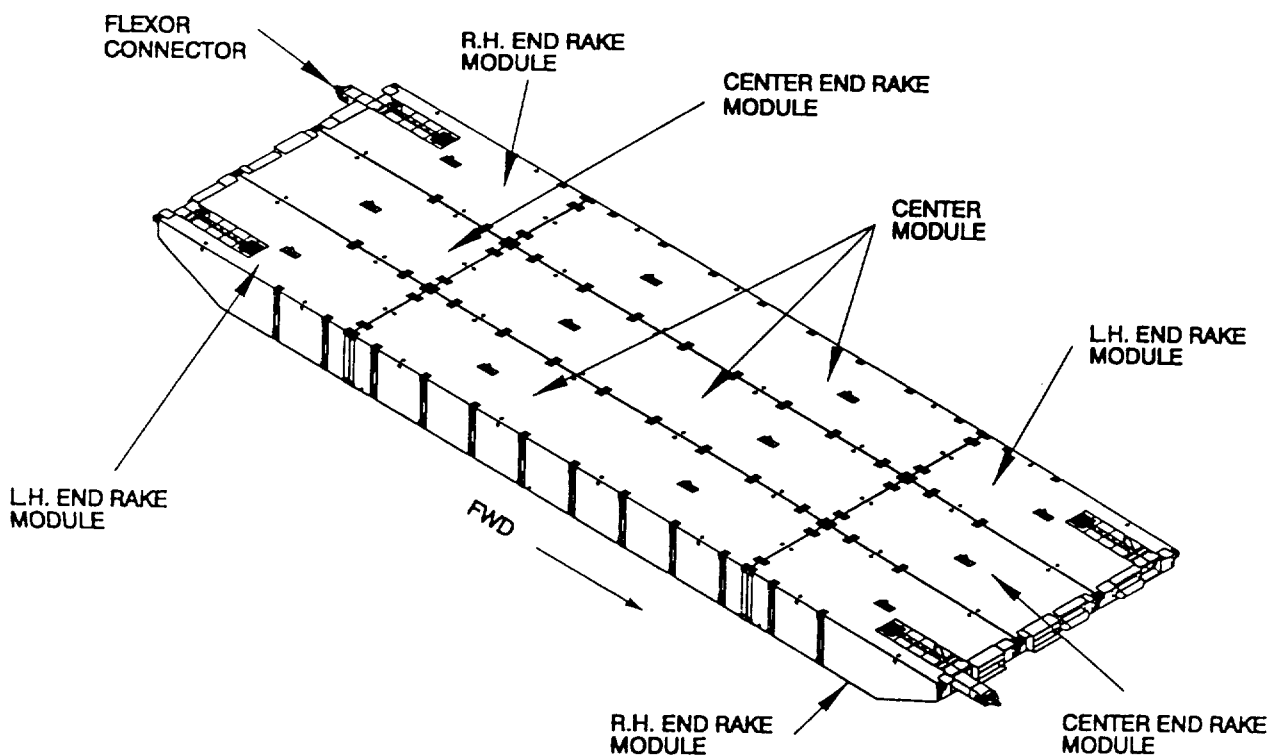

Figure 1-16. Intermediate Section.
**1-11 INTERMEDIATE SECTION.** The intermediate section (Figure 1-16) is made-up of three Center Modules (non-powered) and six End Rake Modules. Each Center Module (non-powered) is 8 feet wide and 40 feet long. Each of the six End Rakes are 8 feet wide and 20 feet long. All modules have a depth of 4 feet 6 inches. The End Rakes are compatible with U.S. Navy flexor attachments and are fully compatible with ISO-container standards. Weight of the section is approximately 134,700 pounds.